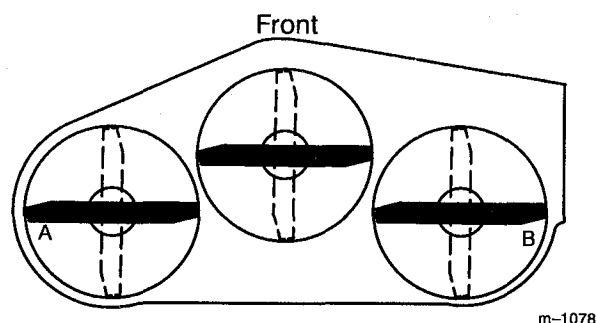
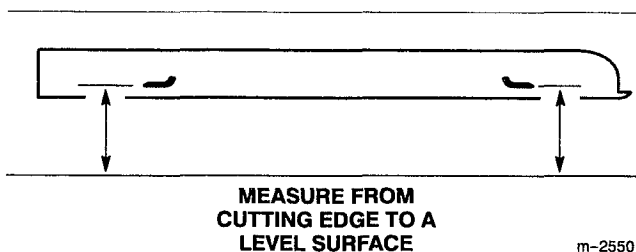

Figure 17
Figure 18
2. Position the blades side-to-side (Fig. 17). Measure at "A" and "B" locations (Fig. 17) from a level surface to the cutting edge of blades (Fig. 18).